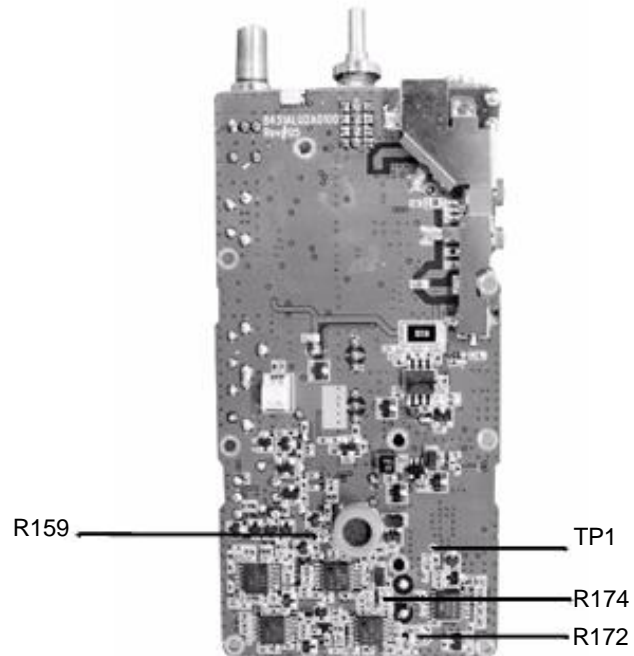
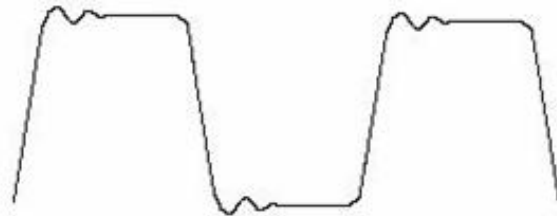

Figure 3-3 Top Side of PCB
Figure 3-4
5. Using the ceramic tool, adjust R174 (refer to Figure 3-3) to modulation balance as per Figure 3-4.
5. Using the ceramic tool, adjust R159 to tune maximum modulation between $2.4 \pm 0.02\text{KHz}$ for narrow band or under 5KHz for wide band (refer to Figure 3-3).
2. Detect output voltage at test point TP1 (refer to Figure 3-3).